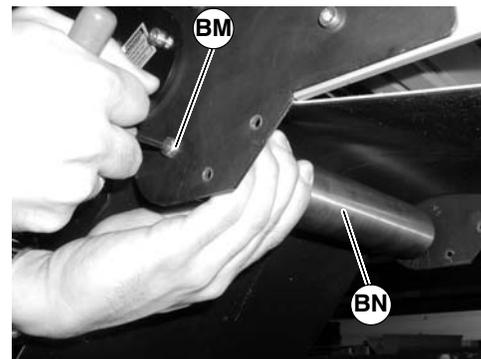

Figure 78
- Push in hex posts (BM of Figure 78) and remove pulley (BN).